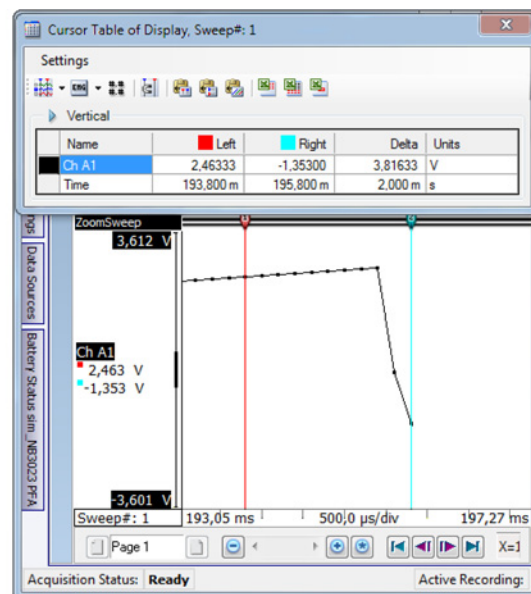

Figure F.10: Sample recording 2
- Next sample recorded (sample of blue cursors, see Figure F.10)